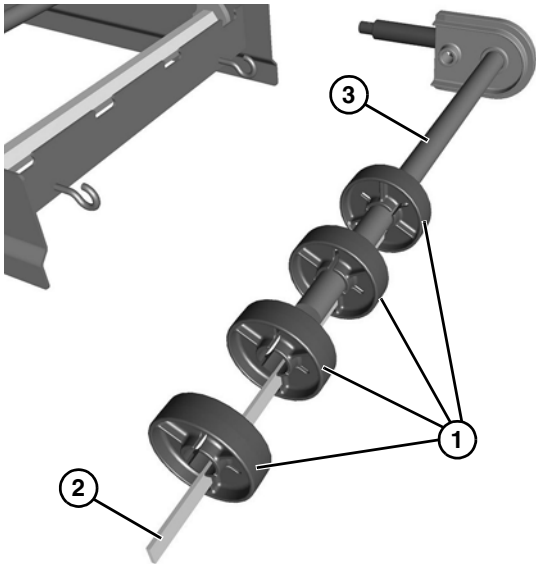

Figure 66
- Slide the pucks (**Figure 66, item 1**) and alignment bar (**Figure 66, item 2**) off the idler shaft (**Figure 66, item 3**).